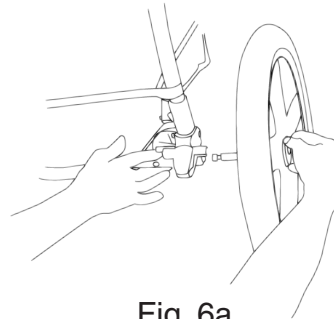

Fig. 6a
6. To attach the rear wheels, lay stroller on its side. Align back wheel axle to the stroller's rear wheel axle housing (Fig 6a). Push the back wheel axle inward until you hear a "click" (Fig. 6b). Once in a fully locked position, check to make sure back wheel is in a fully locked position by pulling outward. Repeat steps for other side back wheel. NEVER use stroller if any wheels are not in a fully locked position. Please contact our customer service department immediately at 1-800-377-3777 for assistance.